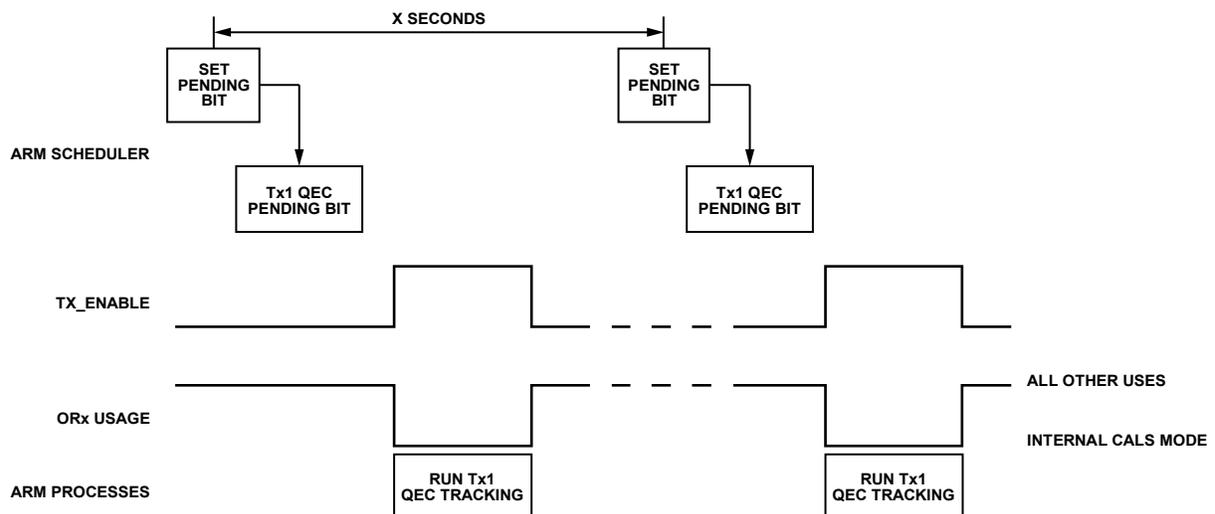

Figure 32. ARM Scheduler Operation
3. Availability of the required paths. The scheduler also determines if the calibration task can be performed. For example, as illustrated in Figure 32, the Tx QEC task requires the Tx to be enabled and the ORx to be assigned to ARM calibrations. If both conditions are not true, then the calibration cannot be run. The scheduler determines this, and, if the calibration cannot run, continues through its priority list to find a calibration which is pending and can be run (for example, Rx1 QEC may be run at this time). See the System Considerations for the Tracking Calibrations section for more details on the required paths for each tracking calibration.